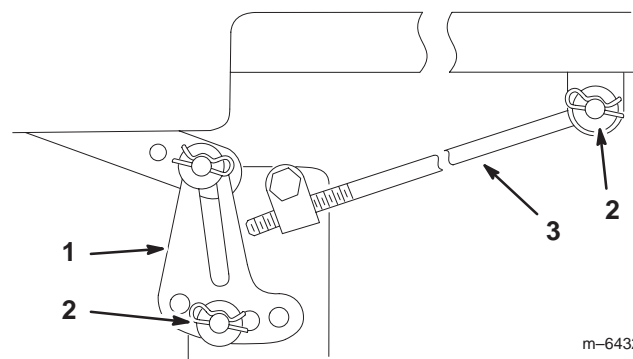

Figure 45
Note: Before removing the mower, make a note for which holes are used in the leveling brackets (Fig. 45).
5. Remove the hairpin cotter and washer from the adjusting rod (Fig. 45) on each side of the mower.
6. Remove the hairpin cotter and washer at the mower leveling brackets (Fig. 45) on each side of the mower. Note which hole the leveling bracket is mounted in for future installation. Slide the brackets off of the mounting pin.
5. Attach the adjusting rod to the tractor with the washer and hairpin cotter (Fig. 45) on each side of the mower.
6. Slide the leveling brackets onto the mounting pins and secure them with the washers and hairpin cotters (Fig. 45).